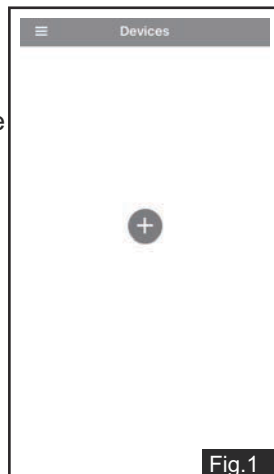

Fig.1
1. a: Aim sensor head(C) toward desired detection area, maintaining a 5° - 40° downward angle to allow moisture to drain. (See Fig.1)